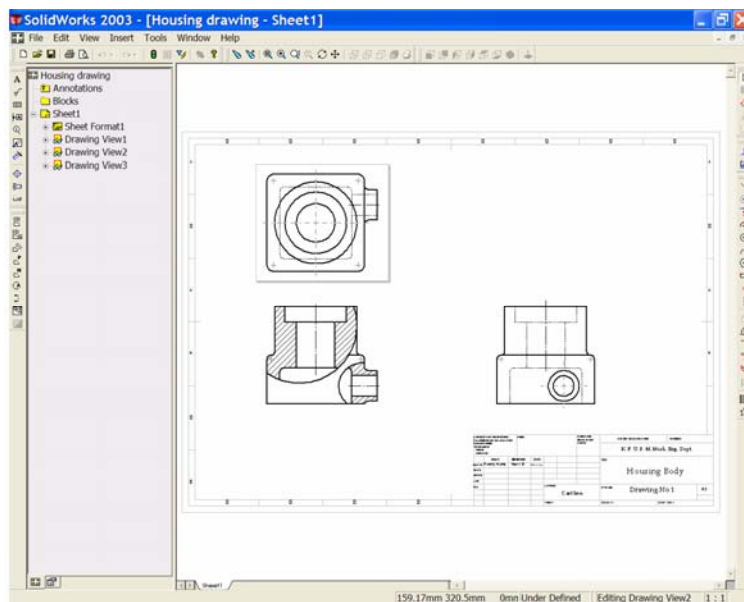

Figure 30
28. In the section view, normally hidden edges are not shown. Select the **ELEVATION** and switch off the hidden edges. See Figure 30.